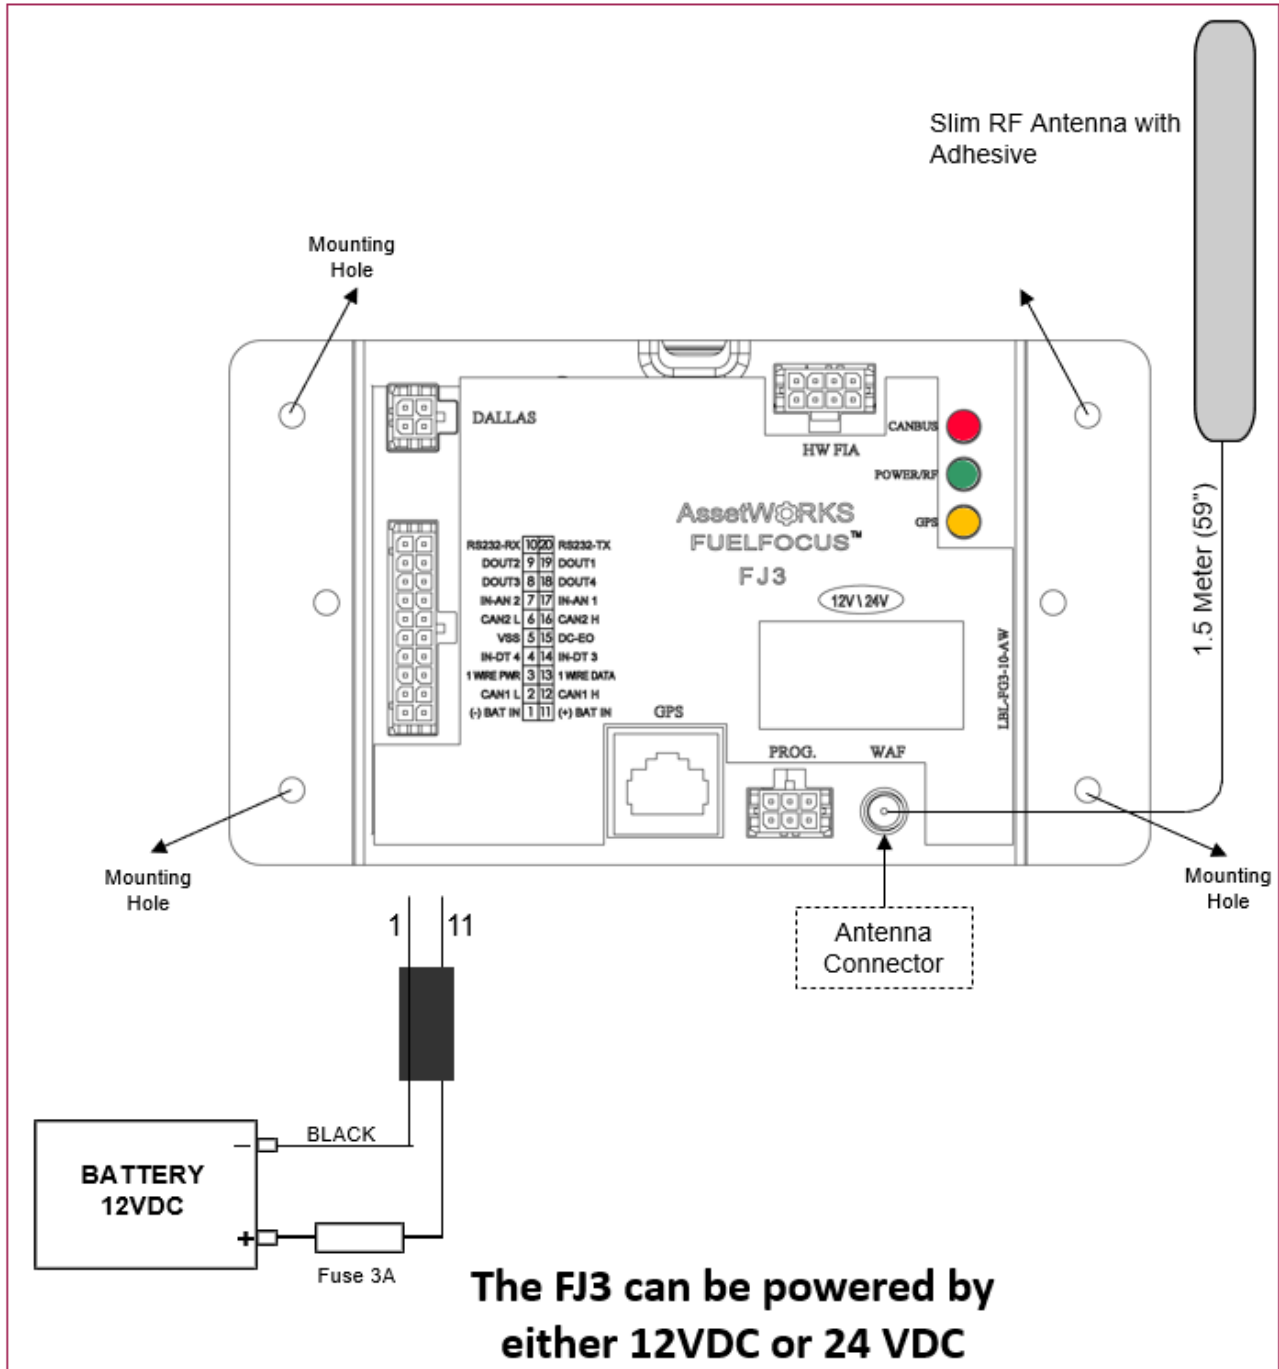

Figure 2 FJ3 Mounting and Power Diagram
3. Mount the FJ3 on the vehicle chassis, or any other metal portion of the vehicle whenever possible. (See figure 2)